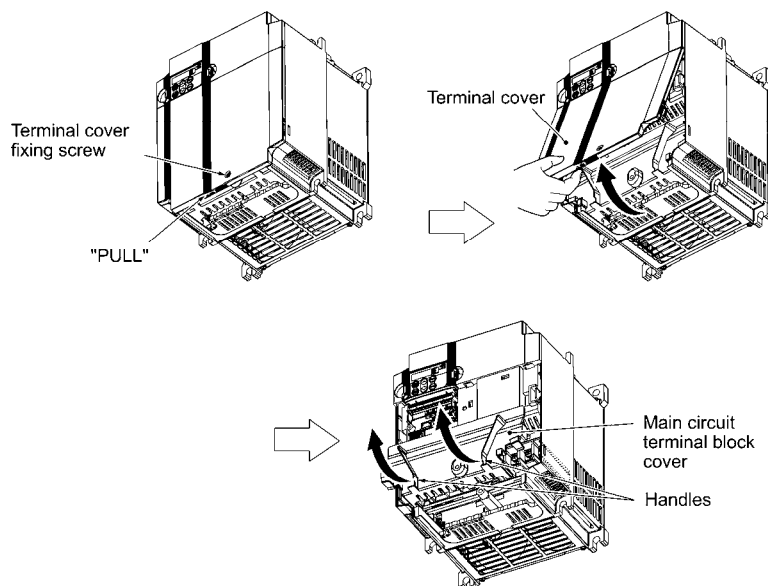

Figure 4.4 Removing the Covers (For Inverters with a Capacity of 11 and 15 kW)
- ① To remove the terminal cover, first loosen the terminal cover fixing screw, put your finger in the dimple of the terminal cover (labelled "PULL"), and then pull it up towards you.
- ② To remove the main circuit terminal block cover, hold the handles on the both sides of the main circuit terminal block cover, and pull it up (Refer to figure 4.4)